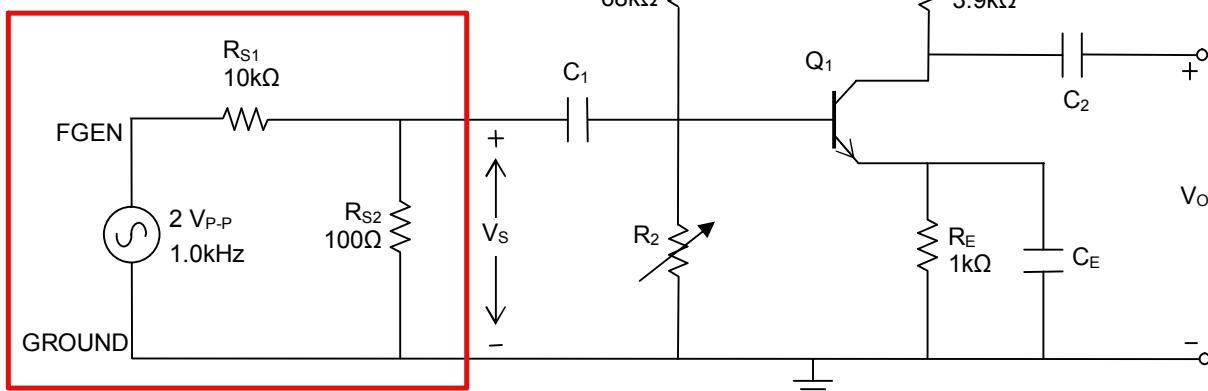

Figure 6.4: CE Amplifier with voltage divider circuit
- Set up the circuit in Figure 6.4 with the capacitors (use $22\mu F$ or $47\mu F$) and voltage divider. To apply V_s to the input of the amplifier, set FGEN to $2.0V_{P-P}$, 1kHz, as input to the voltage divider, as discussed in step 3. Make sure your input is right by connecting the oscilloscope's CH0 to the function generator. **THIS IS A VERY COMMON ERROR, RESULTING IN WRONG OR UNEXPECTED OUTPUT.** If your input voltage is too large, you will clip the top and/or bottom of your output voltage. **DO NOT MAKE GAIN MEASUREMENTS ON A CLIPPED OR DISTORTED OUTPUT WAVEFORM!!!**